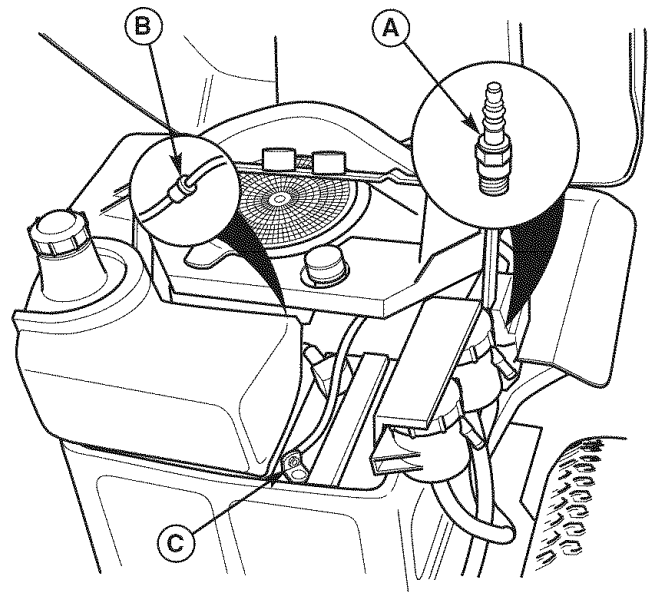

Figure 28. Engine Compartment
2. Clean the area around the spark plug (A, Figure 28).
5. Reinstall the plug into the cylinder head (Figure 28). Torque the plug to 28-32 ft. lbs. (38-43 N.m.).
2. Disconnect the negative battery cable from the negative battery terminal (C, Figure 28).
3. Using locking pliers, clamp off the fuel line on both sides of the fuel filter (B).
8. Reconnect the negative battery cable (C) when finished.